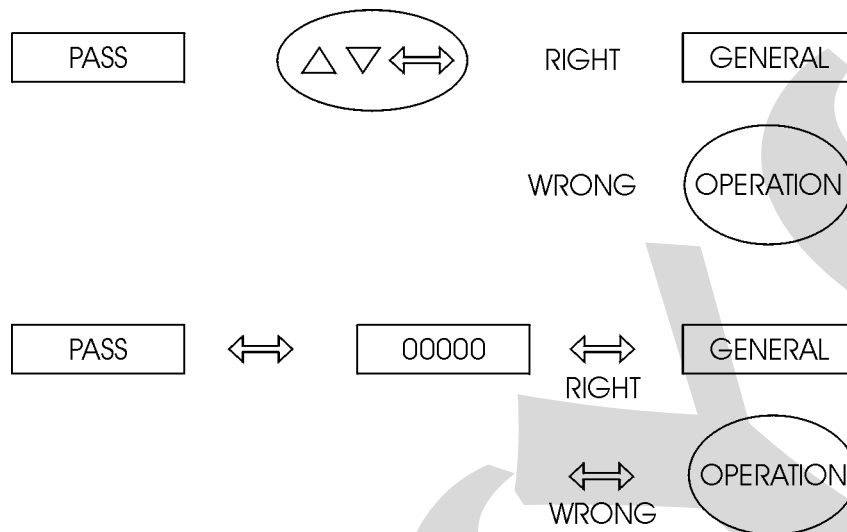

Fig. 7 - Password through key sequence or value
- ii) To display the PASS warning, indicating that the instrument is provided with a password system (a key sequence or a value), according to Figure 7.
For a value password, the user must press the ENTER key for a second time in order to view the number 00000 with the right end digit blinking. The position which is blinking indicates the digit in the number to be changed by the user with the UP and DOWN keys. Move to the digits on the left by pressing ENTER. After entering all digits, press ENTER again. If the password is correct level 1 is accessed; otherwise, it returns to normal operation (see Figure 7).